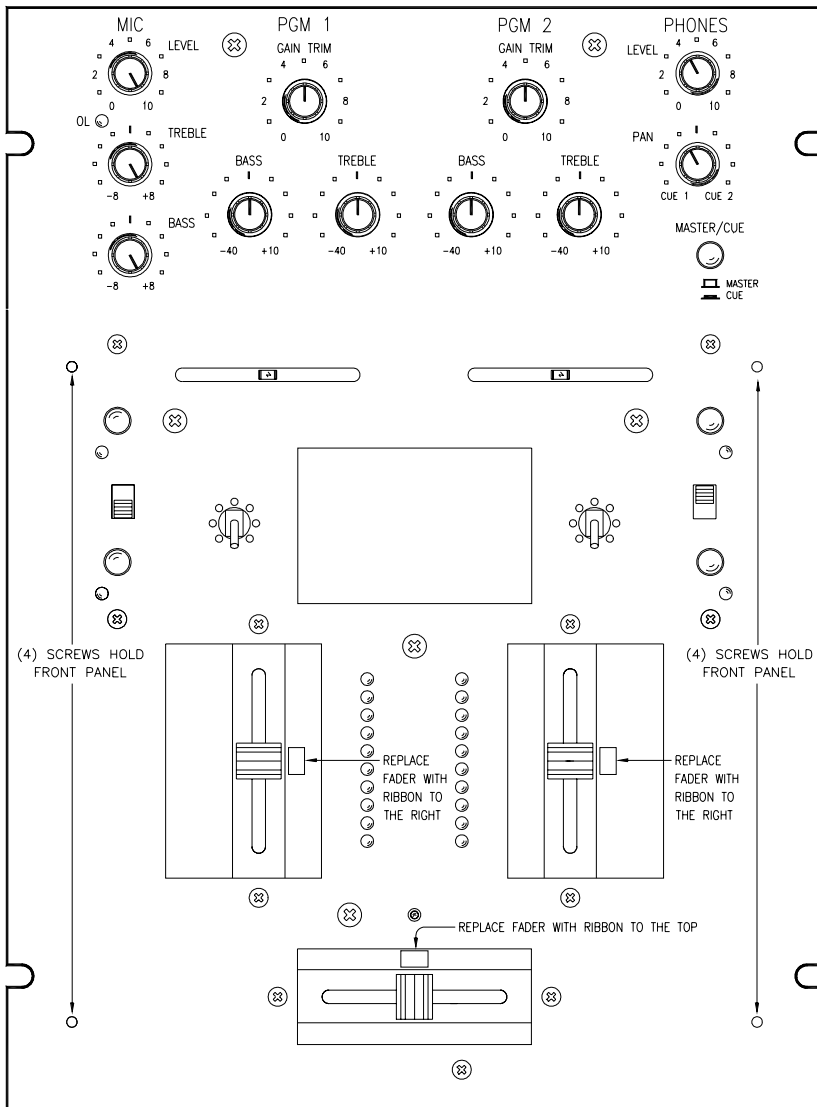

Figure 4. Phono/Line switch rotation or replacement
- ③ **BALANCE** controls are used for **LEFT/RIGHT** balance of **PGM 1** and **PGM 2** or for **LEFT/RIGHT** Pan effect. Push the control to the left and sound moves to the left channel. Push the control to the right and sound moves to the right channel.
- ④ **PHONO / LINE** source select switches are provided for **PGM 1** and **PGM 2**. These are “clickless” switches suitable for “transform scratch” applications. The switches are field replaceable and may be rotated in 45° increments. *See Figure 4 on page Manual-6 for rotation and replacement instructions.*
- ⑤ **HAMSTER** switches are provided for **PGM 1** and **PGM 2 Program Faders**. These switches reverse the operation of the adjacent **Program Fader**. When engaged, signal is *off* with the **Program Fader up**, and *maximum* with the **Program Fader down**.
- ⑥ **Program Fader** controls for **PGM 1** and **PGM 2** are ultra low noise, long-life, monorail devices. An *ActiveFader™* design completely isolates the control element from the audio, providing the highest reliability and performance. *See page Manual-6 for cleaning and replacement instructions.*
- ⑦ **PGM 1** and **PGM 2 Meters** provide true L+R Dual Mono indication of **Post-Program Fader** signal levels. Ten segment resolution is provided with a one second peak hold indication. With the Program Fader set to maximum, the input **GAIN TRIM** should be set to indicate an average level of about +4.
- ⑧ **Crossfader** control is implemented using Ranes' proprietary *ActiveFader™* design. As with the **Program Faders**, all audio is isolated from the control element, greatly extending the life and performance of the control. See page Manual-6 for cleaning and replacement instructions